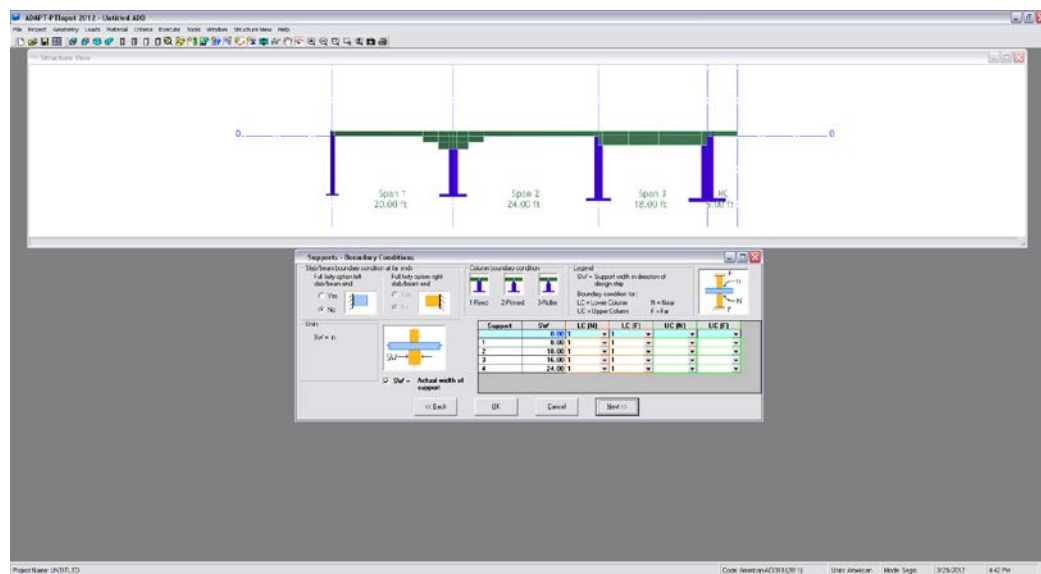

FIGURE 5.3-16
5.3.2.3 Enter Supports Boundary Conditions (Fig. 5.3-16)